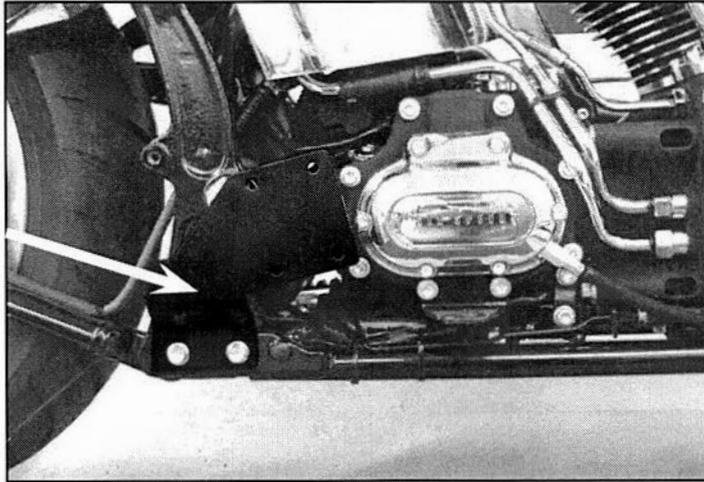
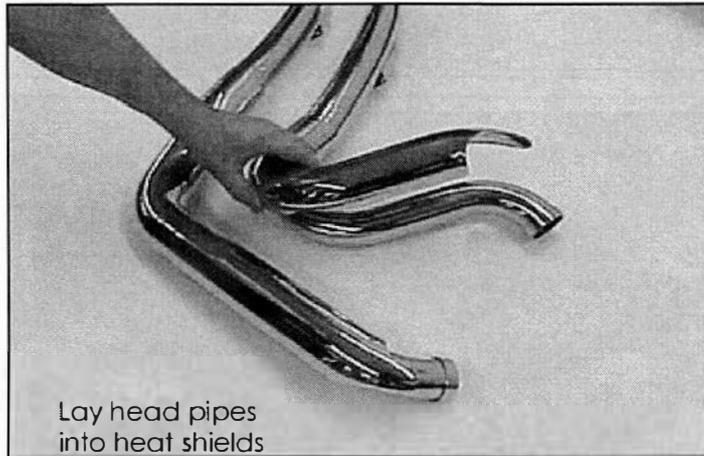
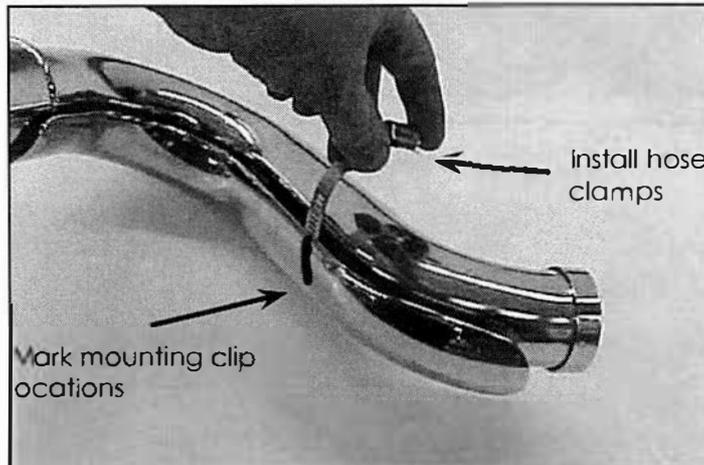

FIGURE 2
FIGURE 3
FIGURE 4
2. Remove head pipes and heat shields from protective packaging. Place each heat shield on a non-abrasive surface such as a blanket or carpet. Using a pencil only, mark the outside edge of each heat shield to show the location of the hose clamp mounting clips (**Figure 3**).
3. Lay head pipes into head pipe heat shields (**Figure 2**) and loosely install the #20 hose clamps (supplied) into mounting clips (**Figure 3**). **NOTE:** Screw head should be accessible when system is installed on motorcycle for adjustment purposes (**Figure 4**). Do not tighten at this time.
9. Using the #28 hose clamps (supplied) install the muffler heat shields beginning with the D322HP on the front head pipe followed by the D323HP (Chrome badge) on the rear head pipe. Screw heads should be accessible for adjustment purposes (**Figure 4**). Do not tighten at this time.